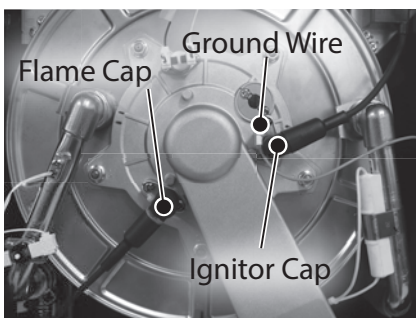

Figure 141 - Remove ignitor rod and flame sensor caps
- 30 Locate the flame sensor and ignitor rod on the burner assembly as shown in Figure 141 (following page). Remove the caps from flame sensor and ignitor rod. **DO NOT** pull wires. Disconnect the green ground wire from the ignitor rod assembly.